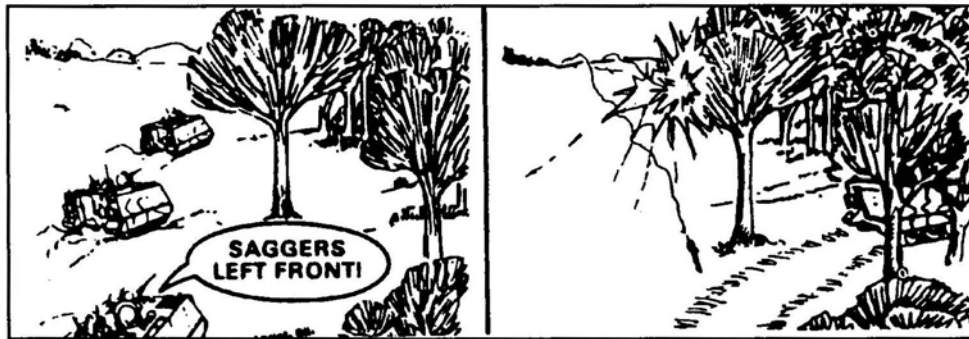

Figure 6. Use terrain.
- f. Where covered or concealed routes are not available, or when their use would be time consuming, plan routes that have "escape valves" available (Figure 6). The figure shows how a dense tree line provides protection from Sappers.